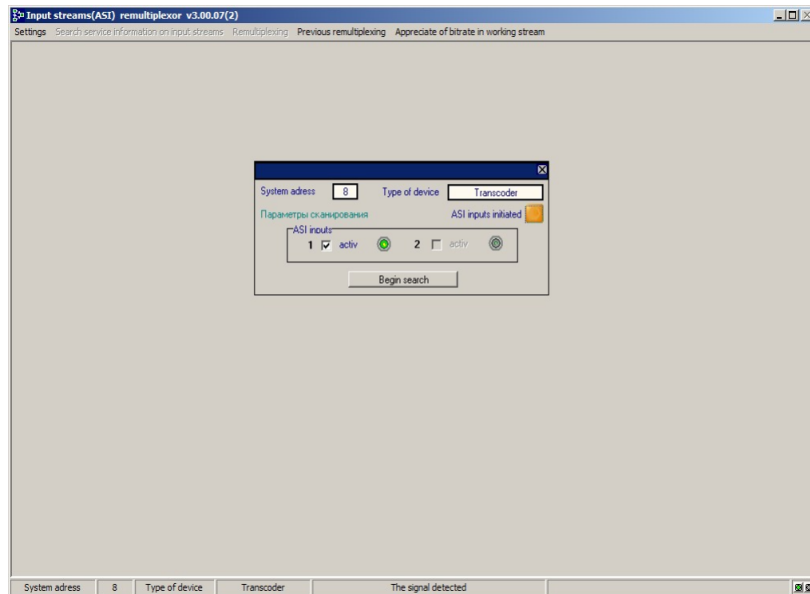

Fig. 3.12
- The Multiplexer Window is appears (Fig. 3.12):